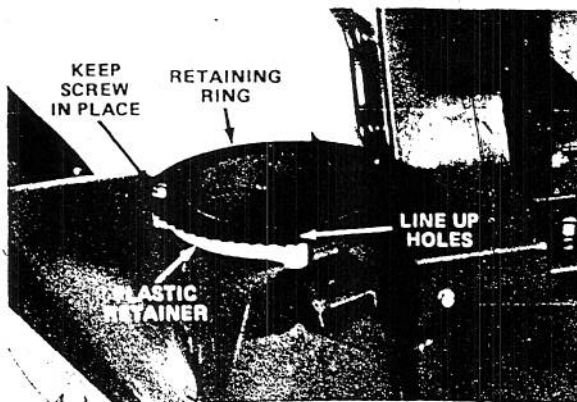

Figure 9
1. Rotate retaining ring so teeth are toward left side of unit (Fig. 9). Next, remove three self tapping screws from top of retaining ring, but do not remove the screw near "TOP" marking, which is on the retaining ring.
2. The two, curved plastic retainers are slotted and are used to secure the discharge chute. Therefore, keep retainers in place (Fig. 9).
3. Move opposite end of retainer under the retaining ring so mounting holes line up and slot in retainer fits over the collar at top of discharge opening (Fig. 9).